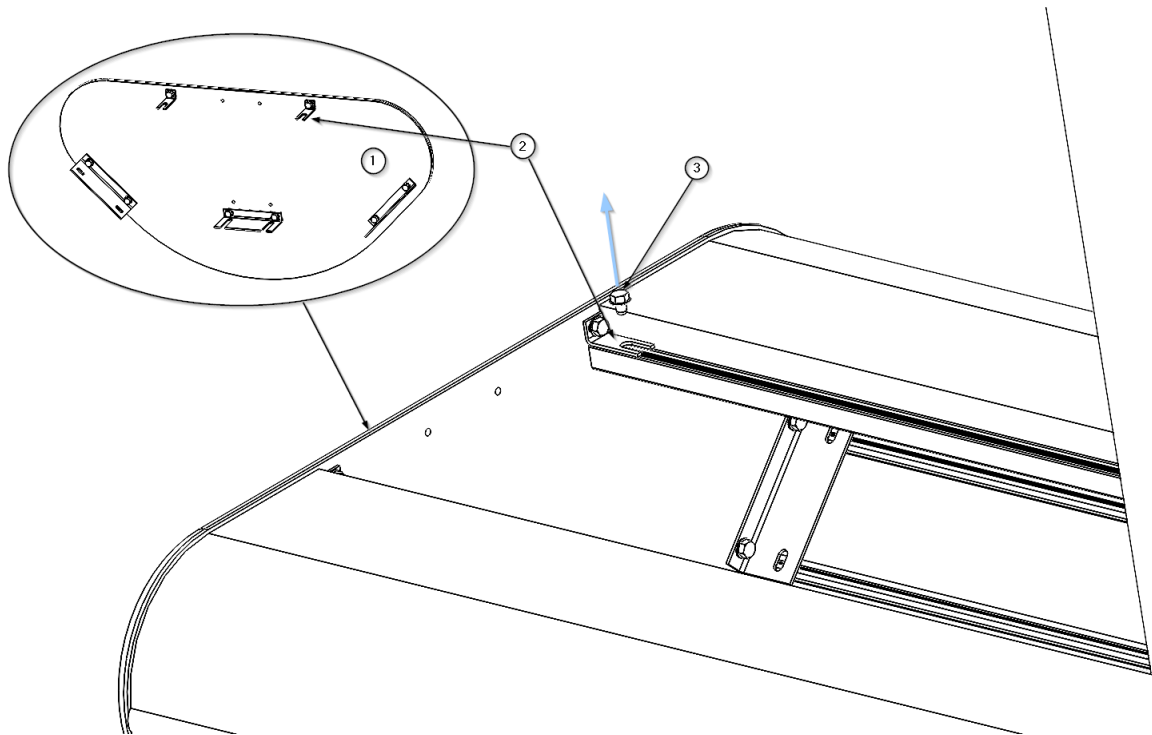

Fig. 3 Disassembly/assembly of end caps on ARES main body
There are two possibilities for indirect lighting in ARES service heads, a lighting module centred on the top face (1) or a lighting module offset from the central area or asymmetrical (2) which would be placed closer to the service area. See figure 3.